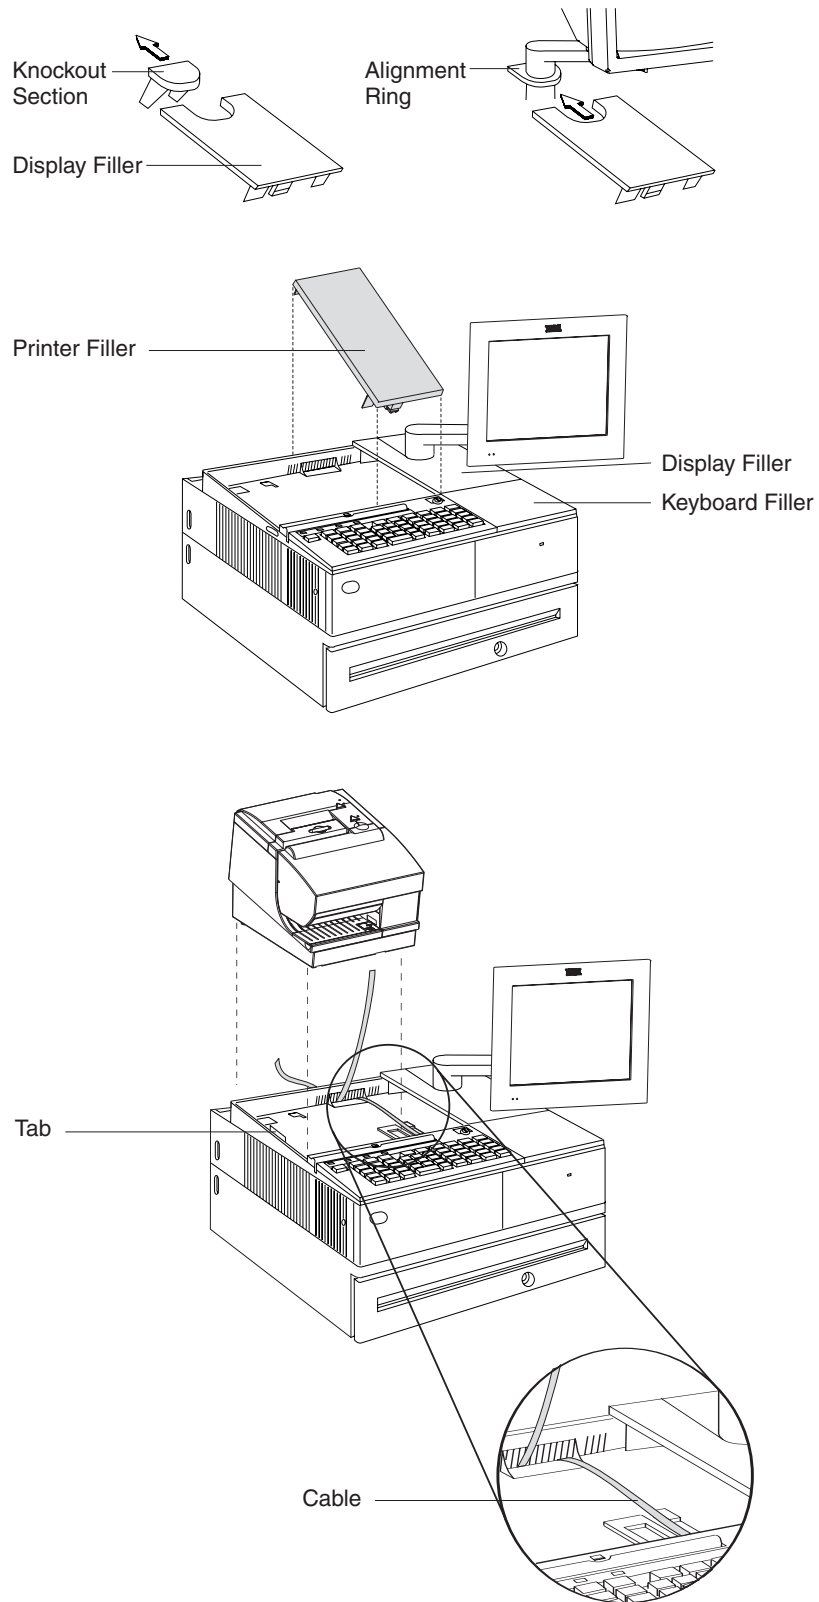

Figure 12. Installing the fillers for RS-232/RS-485 systems:
4. Align the display filler with the alignment ring and slide the filler onto the ring. Press the display filler into place. See Figure 12 on page 17.
6. If you have a short keyboard, place the keyboard filler beside the keyboard. See Figure 12 on page 17.
7. Place the printer filler beside the display filler. **Make sure you route the printer cable to the side, as shown in Figure 12 on page 17.**